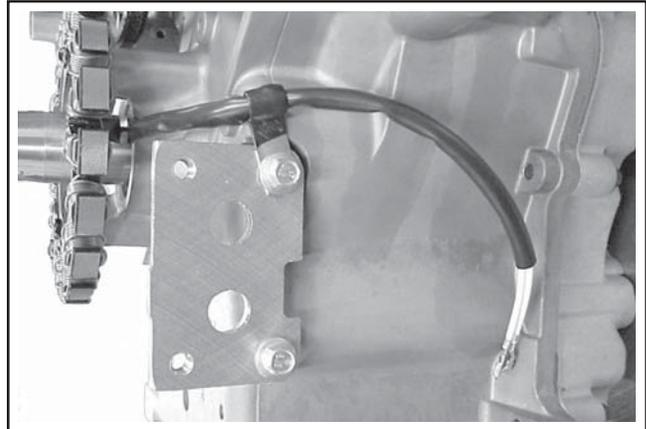

Figure 11-65. Routing Stator Leads through Clamp on Adapter.
2. Place the stator leads within the clamp and close the loop. See Figure 11-65.